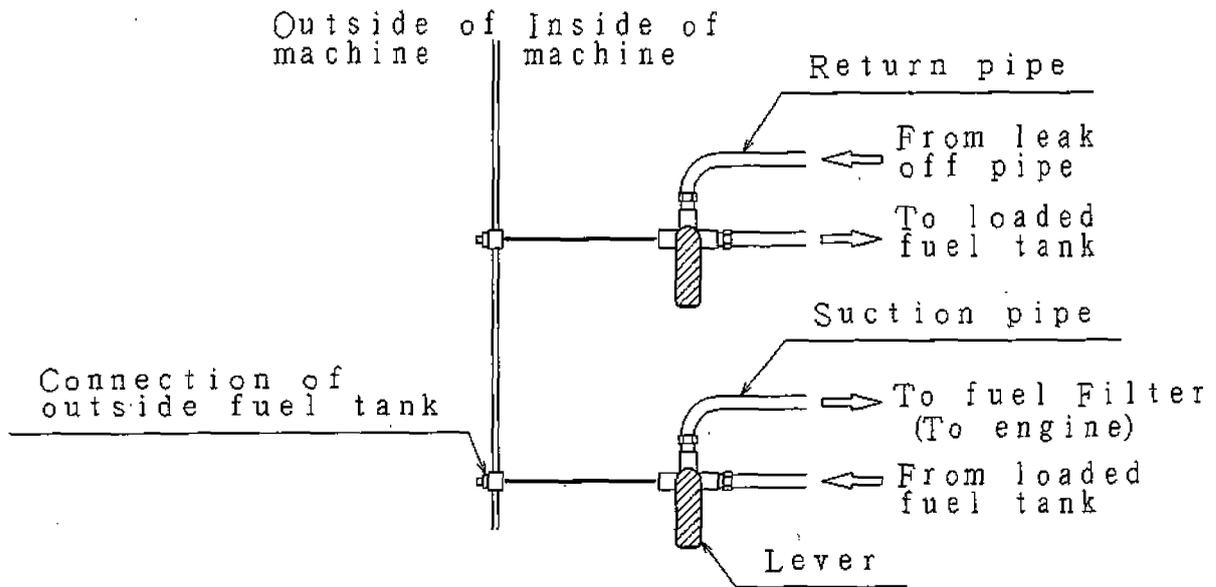
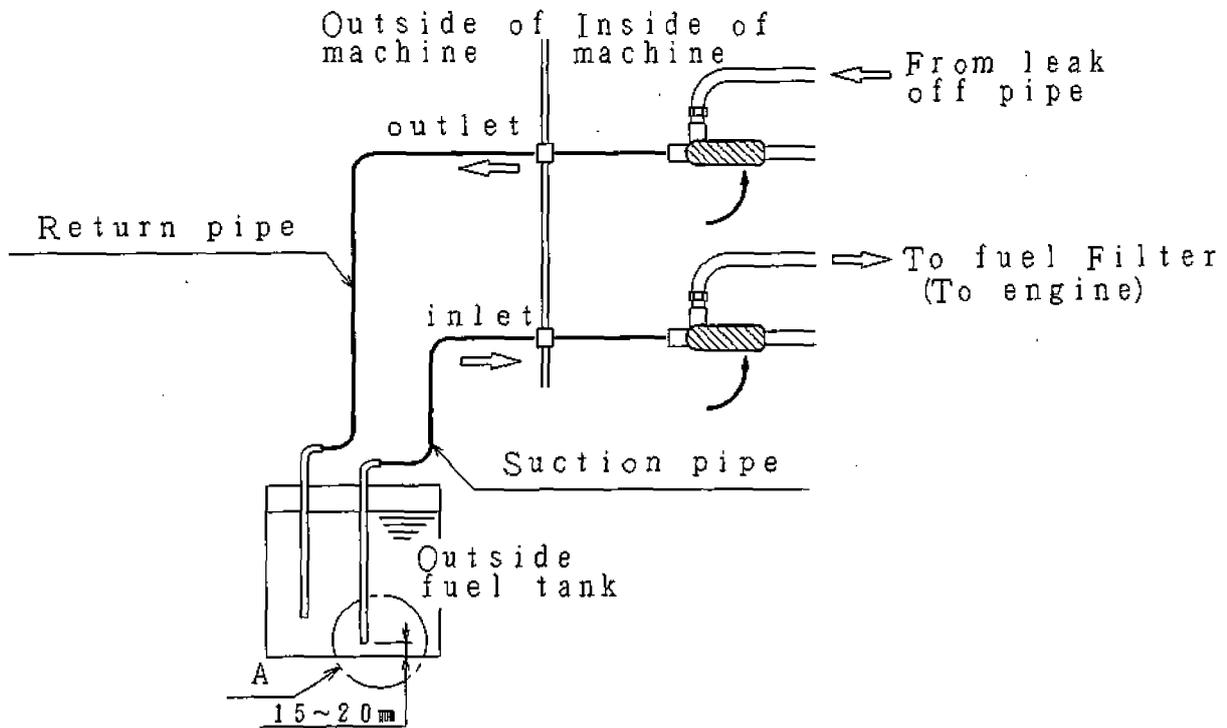

Fig.1 Use of loaded fuel tank
Fig.2 Use of outside fuel tank
(2) Operating procedure
- ① The fuel piping and the change-over valve lever are set as shown in Fig.1 before the machine is shipped. If the fuel is to be supplied from the machine loaded tank, operate the machine with their setting left as such.
- ② If the outside machine tank is to be used for fuel supply, remove the two plugs for connection of the outside machine tank and pipe it as illustrated in Fig.2, then turn the change-over valve in the arrow indicated direction before operating the machine.
- ③ If the outside machine tank is not used with the piping removed from it, be sure to return the change-over valve lever to the position as shown in Fig.1 and screw in the two plugs.
(3) Precaution in piping and operation
- ① For the piping, use an oil resistant pipe with an inside diameter of approximately 8 to 10 mm.
- ② Install the outside machine tank as near to the machine as possible and as the fuel level is within from 0 to +3m for the ground.
- ③ In piping the outside machine tank, leave the position of the change-over valve lever as shown in Fig.1 until the piping is complete before turning it to the position as shown in Fig.2 .
- ④ Set the suction pipe 15 to 20mm above the tank bottom to prevent it from drawing in water and/or foreign matter present in the tank. (See Section A in Fig.2 .)
- ⑤ Take good care to avoid entry of water and or foreign matter into outside machine tank.
- ⑥ Improper handling of changing over the lever, it may cause to overflow the fuel from the fuel tank loaded on the machine or connection of outside fuel tank to the outside of the machine, operate the lever in accordance with the figure.